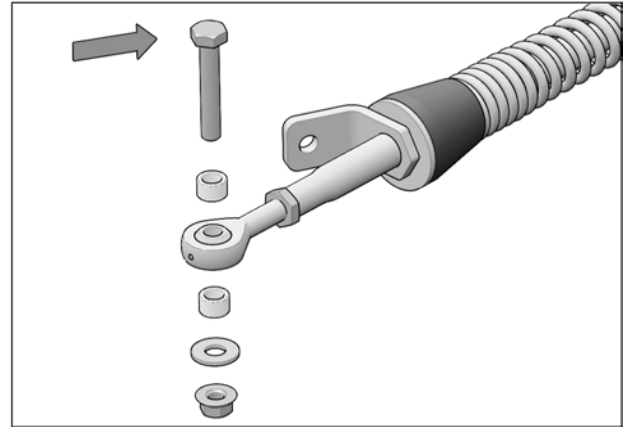

Fig. 18
8. Remove bolt, washer and bushings from front stabilizing rod end as shown in Fig. 18